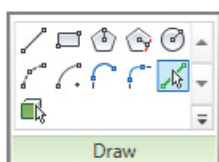

FIGURE 1.22
4. In the Draw panel in the ribbon, click the Pick Lines icon, as shown in Figure 1.22, and then click each of the red lines indicated in the floor plan.